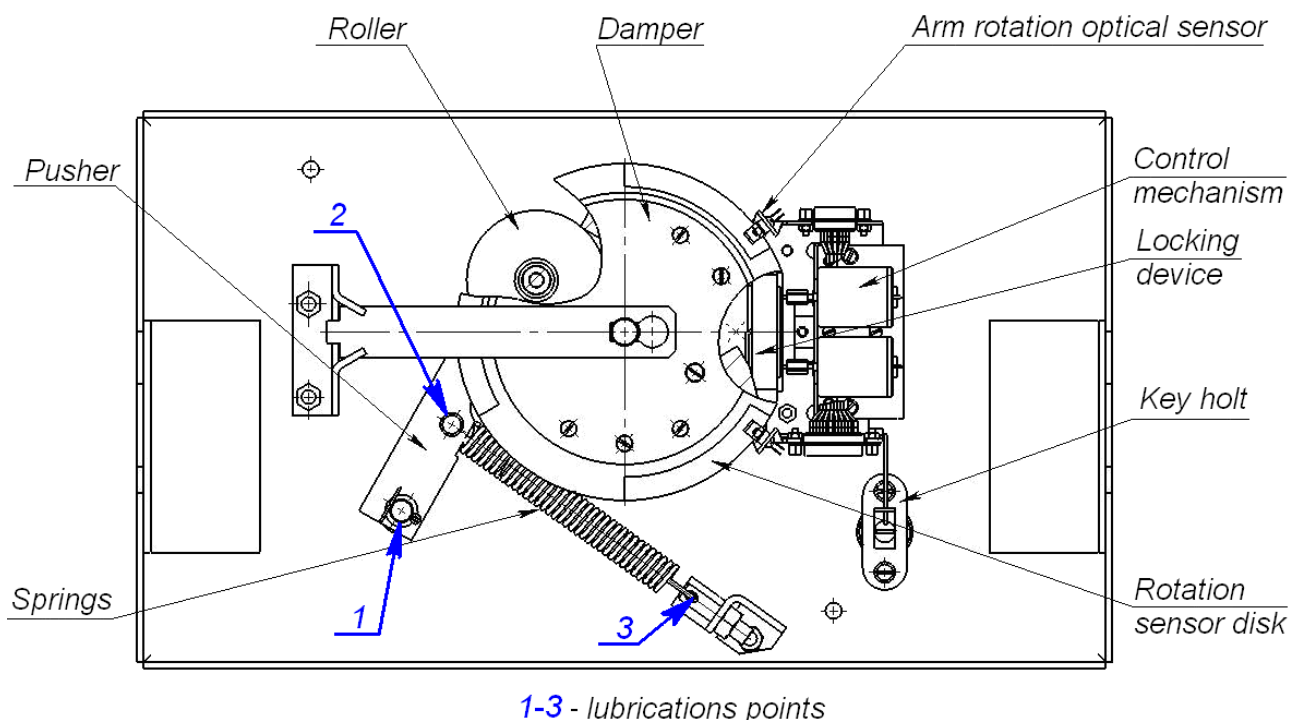

Fig. 15 Location of the interior components of the turnstile housing
Check visually the resetting device (the pusher, the springs and the roller), the arm rotation optical sensors and the damper (see Fig. 15).
- four bushes of the resetting device (two — on the rotation axis of the pusher, two — on the fastening axis of the springs) (see Fig. 15);
- lock cylinder of the mechanical release lock (8) through the keyhole;
- lock cylinder of the turnstile cover lock (6) through the keyhole.